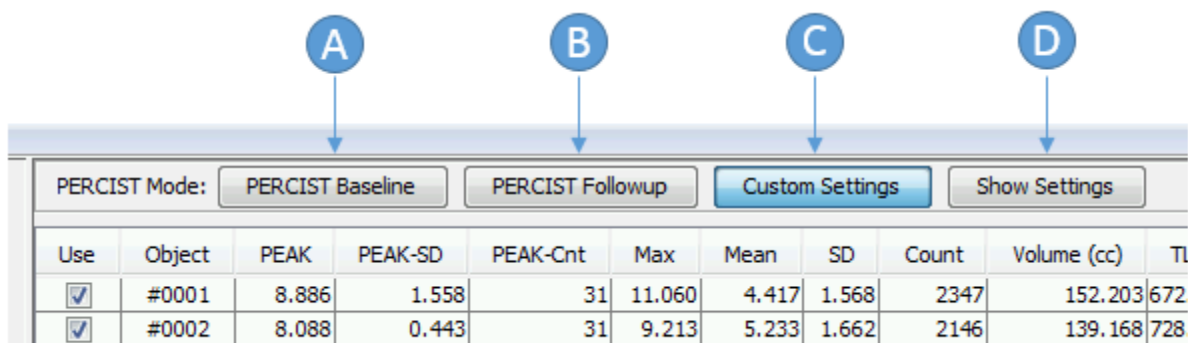

Figure 6-9 Auto-PERCIST™ Options Panel
To begin with, there are two shortcut buttons on the top of the Options Panel (Figure 6-9) which allows the user to quickly put the program into either **PERCIST Baseline** (A) or **PERCIST Followup** (B) modes. The only difference between these modes is the method by which the disease assessment threshold is calculated.